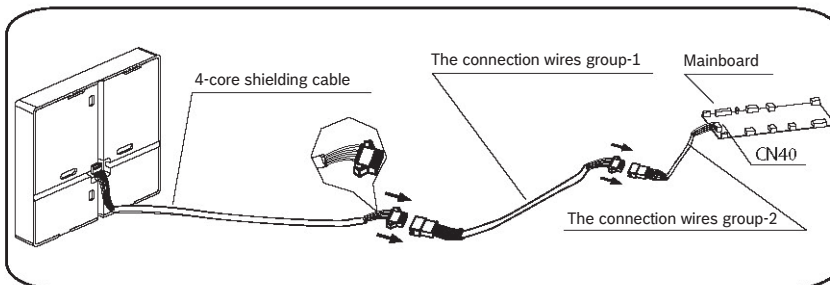

Fig. 3-3
- Connect the female joint of cable group from the mainboard with the male joint of connection cable group. (See Fig. 3-3)
- Please connect the other side of connection wire group with the male joint of cable leads from controller. (See Fig. 3-3)